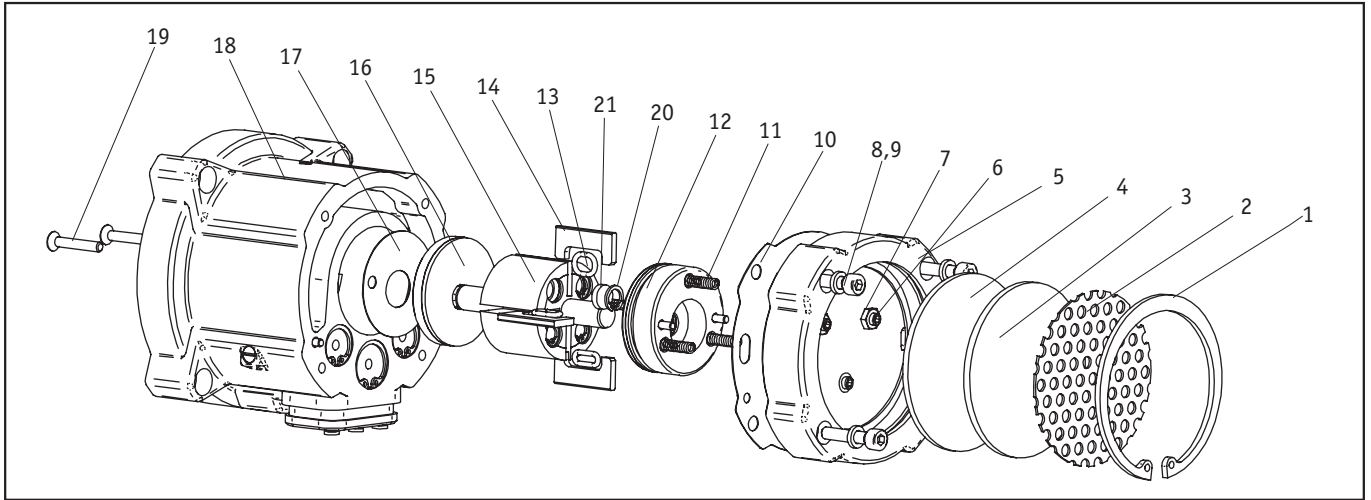

Figure 19: Replacing brake discs, brake piston and vanes/motor assembly for motorised trolleys up to 6 tons carrying capacity
- ▶ One at a time, place the spacer (4), the bearing disc (5), the plate spring (6) and the cover (7) over the end of the rotor (see Figure 19).